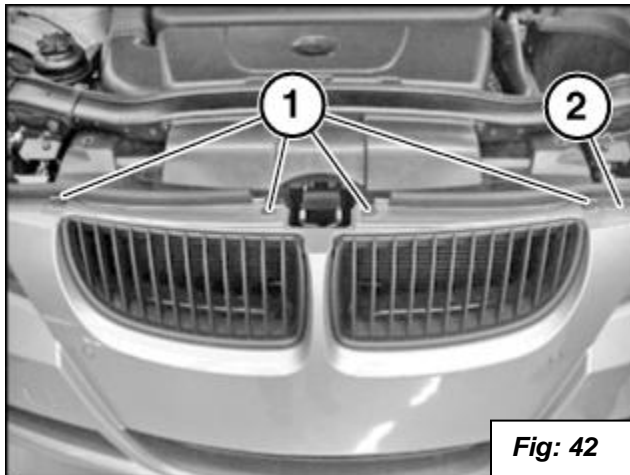

Fig: 42
50. Fasten the top screws (1) as shown in **figure 42** and the side screws (2) as shown in **figure 43**.